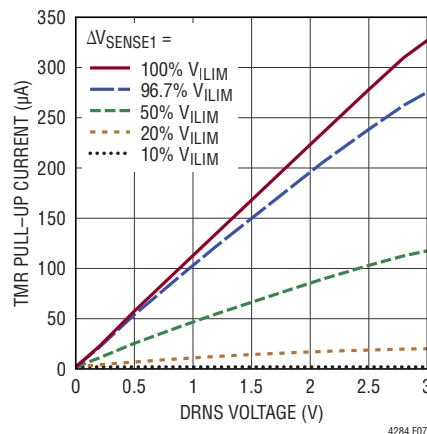

Figure 7. TMR Pull-Up Current vs  $\Delta V_{SENSE1}$  and DRNS Voltage
**Case 1.** If active current limit is engaged in normal operation (power good signals are asserted), the TMR pull-up current of the LTC4284 is proportional to the attenuated drain voltage of the MOSFET at DRNS (top line in Figure 7). This is proportional to the power dissipation since the current through the MOSFET is fixed during
Figure 7 shows the TMR pull-up currents vs  $V_{\text{DRNS}}$  at four different  $V_{\text{SENSE1}^+} - V_{\text{SENSE1}^-}$  levels below current limit.